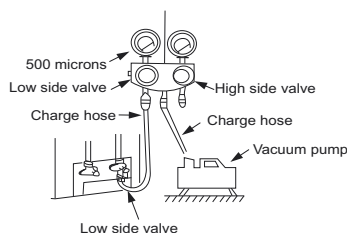

Fig. 17 — Manifold
3. Fully open the low side of manifold gage (see Fig. 17).